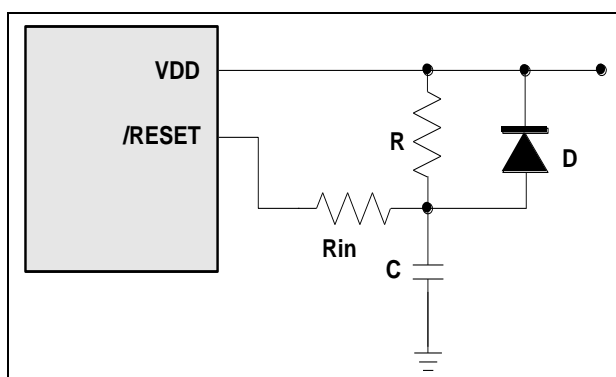

Figure 6-46 External Power-Up Reset Circuit
The circuit as shown in Figure 6-46 implements an external RC to produce the reset Pulse. The Pulse width (time constant) should be kept long enough for VDD to reached minimum operation voltage. This circuit is used when the power supply has slow rise time. Because the current leakage from the /RESET pin is about $\pm 5\mu\text{A}$, it is recommended that R should not be greater than 40K. In this way, the /RESET pin voltage is held below 0.2V. The diode (D) acts as a short circuit at the moment of power down. The capacitor C will discharge rapidly and fully. Rin, the current-limited resistor, will prevent high current or ESD (electrostatic discharge) from flowing to pin /RESET.